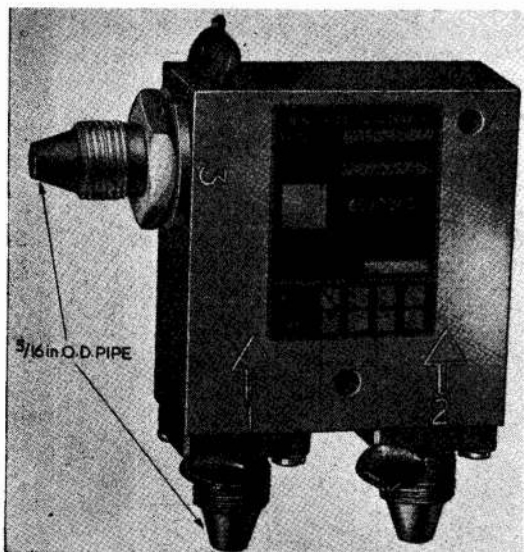

Fig. 7. Twin supply liquid oxygen check valve
17. There are three A.G.S. male cone union connections, to suit $\frac{5}{16}$ in. O.D. piping. The method of mounting is by means of two fixing holes for 2 B.A. bolts as shown in fig. 7.